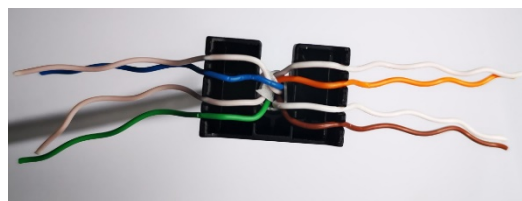

Figure 4
3.4 Following the wire identification label, use the inside towers between the wire positioning slots to begin to separate the wire pairs. Untwist just enough of the wire to lay straight across the lacing fixture to the outside wire position slot. See Figure 4.